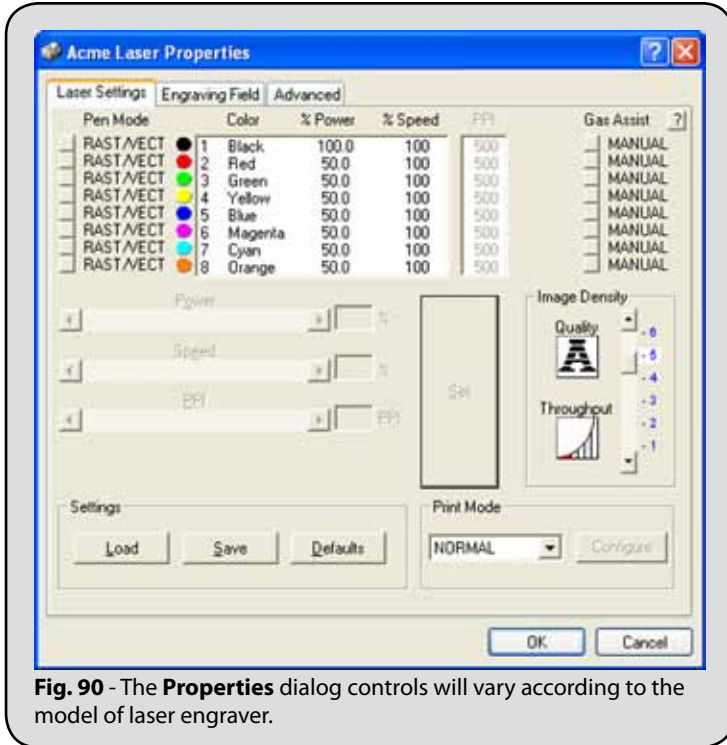

Fig. 90 - The **Properties** dialog controls will vary according to the model of laser engraver.
10. The controls on the **Properties** dialog will vary according to your model of laser engraver (Fig. 90). For specific instructions concerning these controls, please refer to the documentation provided with your laser engraver.